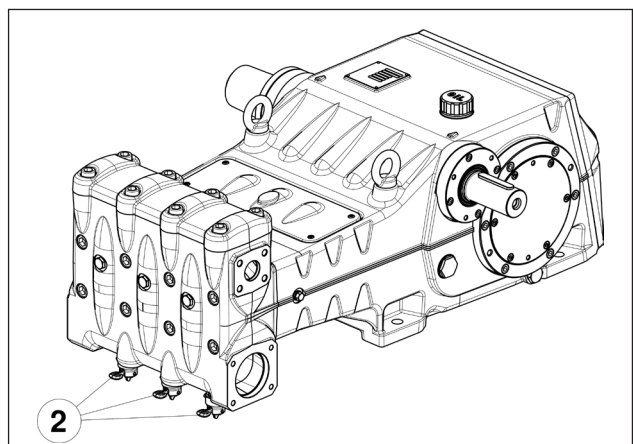
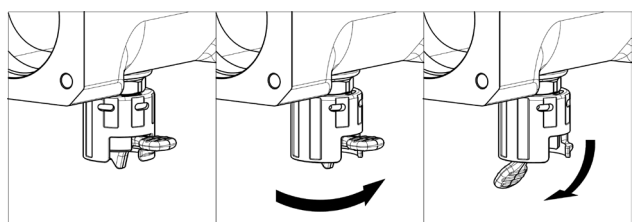

Fig. 9
Fig. 10
In case of prolonged storage or long-term inactivity, you need to restore the proper functioning of the suction valves by opening the three valve-lift devices (see pos. ② Fig. 9). Make sure you have closed the valves before starting the pump. For the "work" and "rest" positions, see Fig. 10.